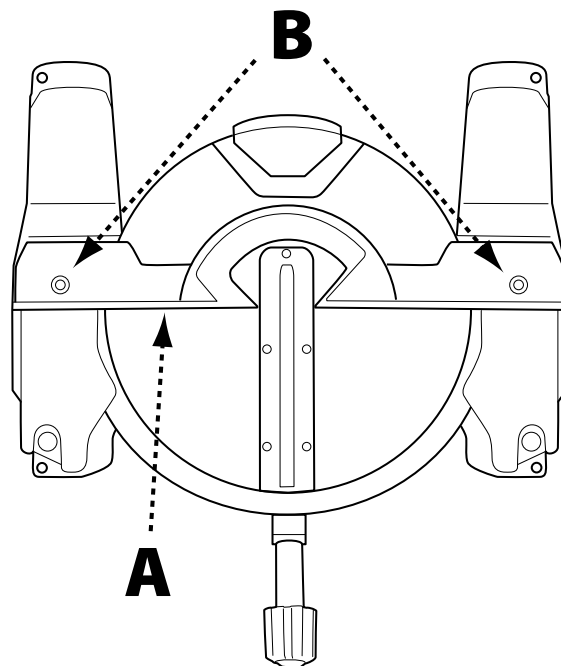

FIGURE 10
The fence (A) is held in position on the table by two socket head screws (B) as shown in Figure 10. To ensure accurate cuts, the fence must be perpendicular to the face of the saw blade.
8. Loosen the socket head screws shown in Figure 10.